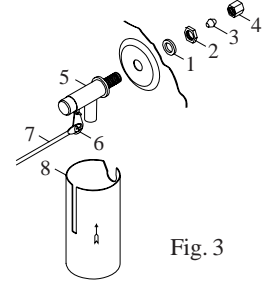

Fig. 3
- **Install float valve and fill pan.** Refer to Fig. 3. Remove items 1, 2, 3, and 4. Insert float body (5) through hole in back post panel as shown. Install washer (1) and nut (2). Tighten to keep float from turning. Place nut (4) and ferrule (3) on water supply line. Connect to float fitting and tighten until water tight. Loosen screw (6) and adjust rod (7) until water level is within 1" of top of reservoir. Tighten screw (6). Slide float shield (8) up over float body (5) until it snaps into place.